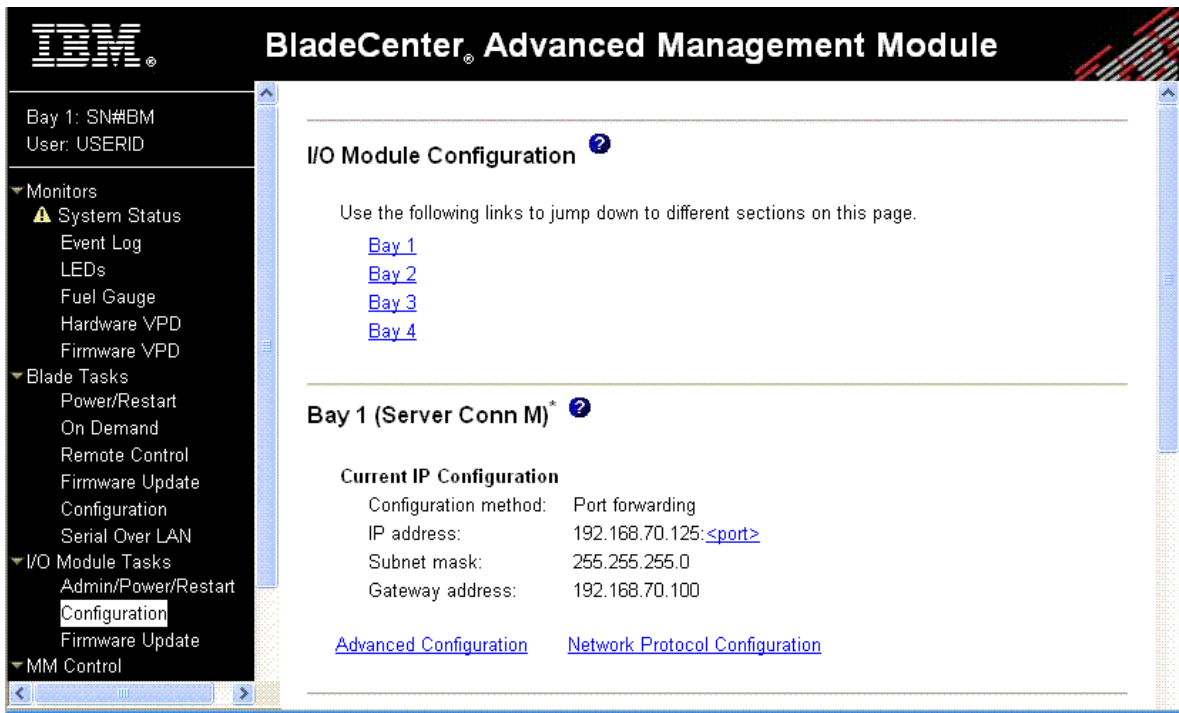

Figure 2-2 Server Connectivity Module management on the BladeCenter management module
3. Select Configuration on the I/O Module Tasks menu on the left side of the BladeCenter Management Module window. See Figure 2-2.
3. Select Configuration on the I/O Module Tasks menu on the left side of the BladeCenter Advanced Management Module window. See Figure 2-2.